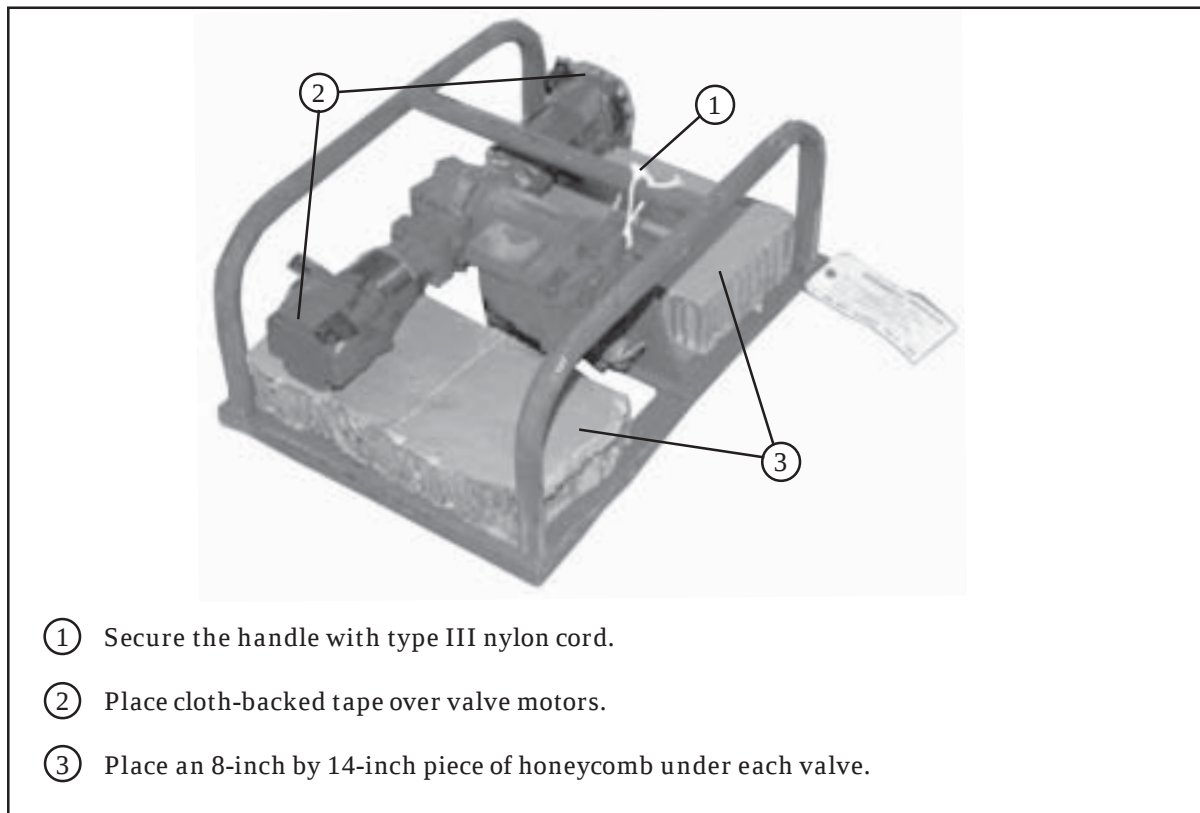

Figure 4-8. Explosion-Proof Motor Secured
c. Prepare and secure the explosion-proof motor as shown in Figure 4-8.